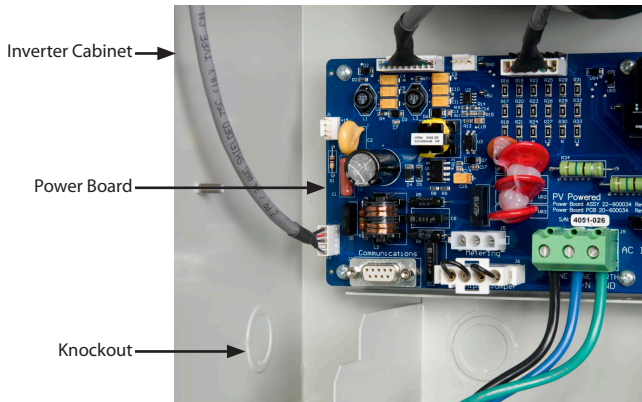

Figure 1-2 Inverter's power board and knockouts
1. Insert the cord grip, provided in the product package and shown in Figure 1-8, into an available knockout. The knockout in Figure 1-2 may be used or the most appropriate knockout for your installation.